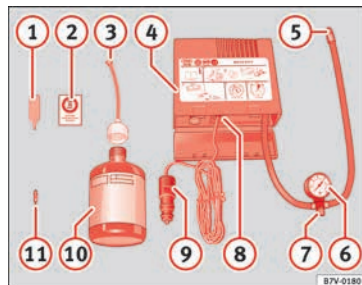

Fig. 89 Standard representation: Contents of the tyre mobility system.
» **Fig. 89:**
Screw in the inflator tube » **Fig. 89** ⑤ again and check the pressure on the gauge ⑥.